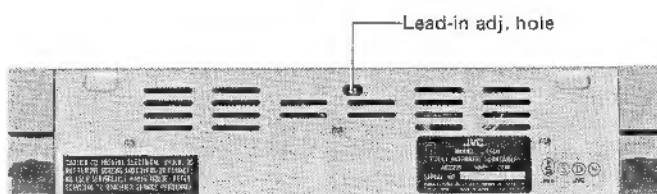

Fig. 12
### 6-(2) Lead-in adjustment (Fig. 12)